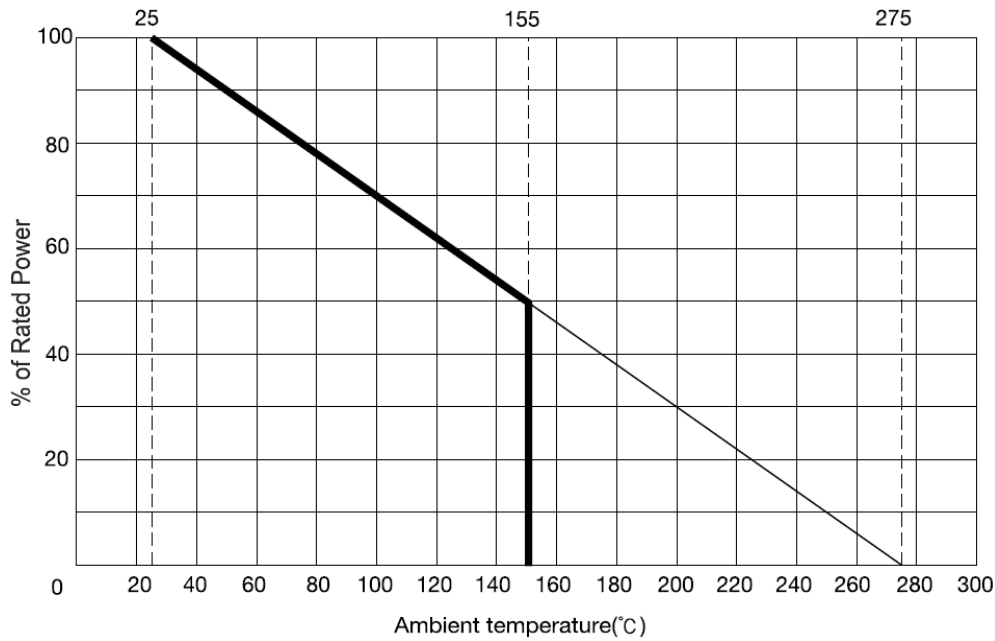

Figure 18. De-rating Curve Example of Shunt Resistor (from RARA Elec.)
- Power Factor (PF): 0.8
- De-rating Ration of Shunt Resistor at $T_{SHUNT} = 100^\circ\text{C}$: 70% (refer to Figure 18)